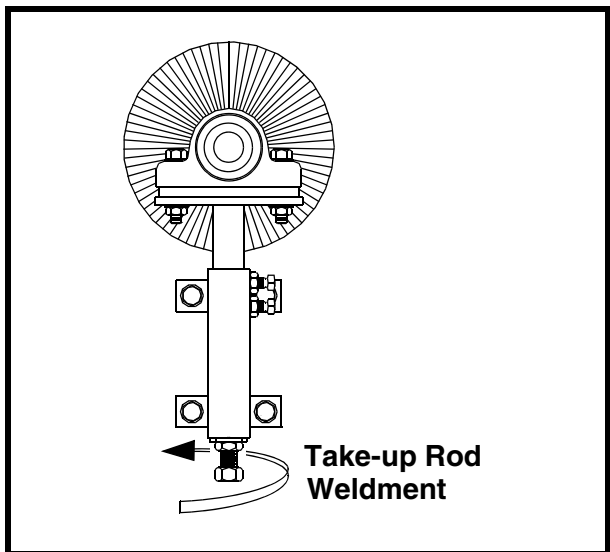

Figure 5. Tensioning Martin® Standard or Rotary Strip Brush Cleaner
- a. Turn take-up rod weldment on bottom of mount bracket until 1/4-in. (6 mm) of brush is deflected against belt (see Figure 5). Count number of turns.